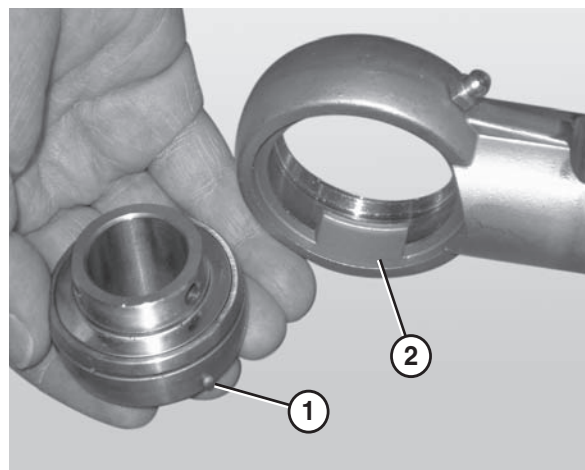

Figure 89
4. Remove the worn or damaged bearing (**Figure 89**).
When inserting the new bearing, make sure the anti-rotation notch (**Figure 89, item 1**) on the bearing lines up with the groove inside the housing (**Figure 89, item 2**).